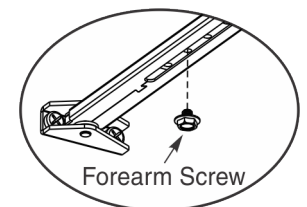

Figure 23
- While holding arm in position, secure rod to adjusting tube with forearm screw. (Figure 23)